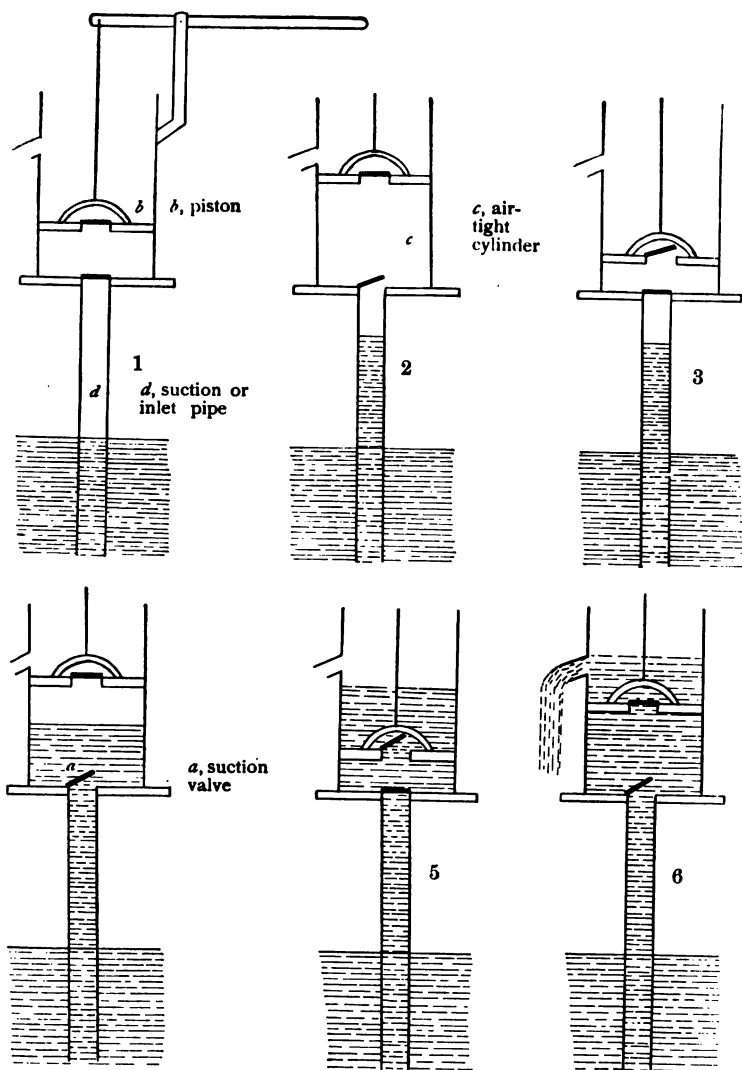

FIG. 133 — Diagram of the process of pumping.
In order to understand the action of a pump, we will suppose that no water is in the pump, and we will pump until a stream issues from the spout. The various stages are represented diagrammatically by Figure 133. In (1) the entire pump is empty of water but full of air at atmospheric pressure, and both valves are closed. In (2) the plunger is being raised and is lifting the column of air that rests on it. The air and water in the inlet pipe, being thus partially relieved of downward pressure, are pushed up by the atmospheric pressure on the surface of the water in the well. When the piston moves downward as in (3), the valve in the pipe closes by its own weight, and the air in the cylinder escapes through the valve in the plunger. In (4) the piston is again rising, repeating the process of (2). In (5) the process of (3) is being repeated, but water instead of air is escaping through the valve in the plunger. In (6) the process of (2) is being repeated, but the water has reached the spout and is flowing out.